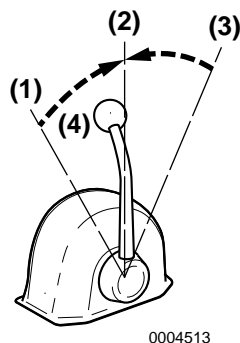

Figure 2
Use the throttle handle (**Figure 2, (4)**) to control acceleration and deceleration. Move the handle slowly.
- NOTICE: *NEVER* shift the marine gear at high engine speed. During normal operation, the marine gear should only be shifted with the engine at idle. When moving the handle between FORWARD (**Figure 2, (1)**) and REVERSE (**Figure 2, (3)**), bring the clutch to NEUTRAL (**Figure 2, (2)**) and pause before slowly shifting to the desired position. Do not shift abruptly from FORWARD to REVERSE or vice versa.